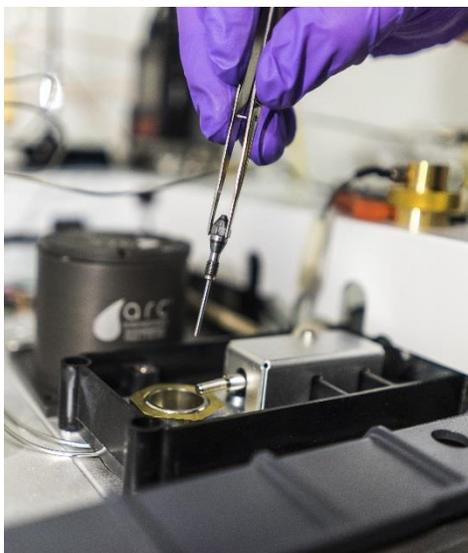

Figure 1. Installation of the Jetanizer™ into an FID.
14. Install the Jetanizer™ by placing it into the FID assembly (Figure 1).